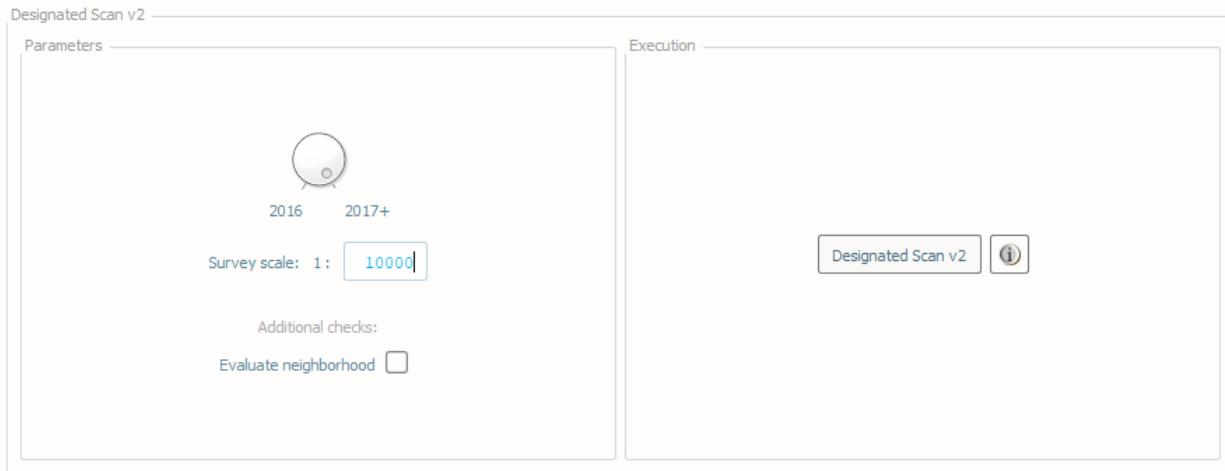

Fig. 2.39: The **Scan Designated** tab.
- Select the **Scan Designated** tab (Fig. 2.39) on the bottom of the QC Tools interface.